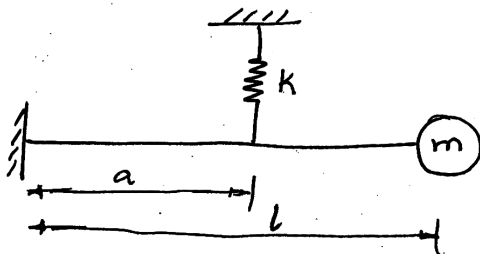

Fig 1 Q.1b
- 1 a. Obtain the natural frequency for the system shown in Fig.1 (b) by Newton's method and energy method. 12